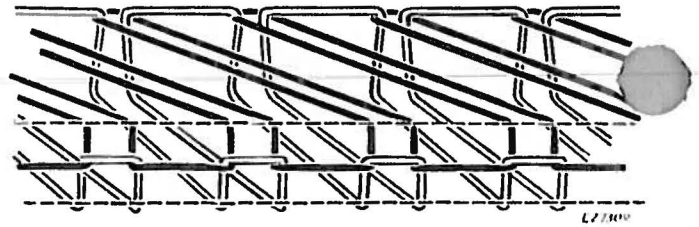

Fig. 3 Stitch Formation (Stitch Type #503)
- ... two-thread serging stitch (Stitch Type #503, shown in Fig. 3). See page 12 for instructions on threading.